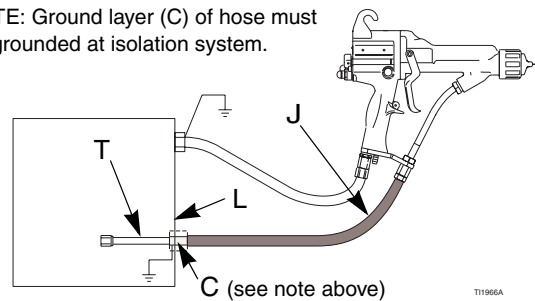

Fig. 10. Shielded Fluid Hose Connection at Non-Graco Isolated Enclosure
- b. *Non-Graco Isolated Enclosure*: Connect hose as instructed in the isolation system manual, and comply with the requirements in the **Warning** at right. Refer to FIG. 10..